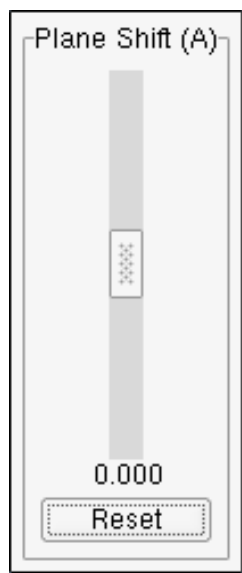

Figure 2.15: Plane Shift window
Simultaneously with the drawing plane, the **Plane Shift** window appears, Figure 2.15. This enables the plane to be shifted vertically (perpendicular) from its original location, by a specific distance in Angströms. To set the plane shift back to 0 Angströms press the **Reset** button.
- **Plane Shift** toggles the Plane Shift window, Figure 2.15. When enabled, the Plane Shift window will automatically appear whenever a drawing plane is activated. It is used to shift the drawing plane by a specific distance in Angströms. To set the plane shift back to 0 Angströms press the **Reset** button.